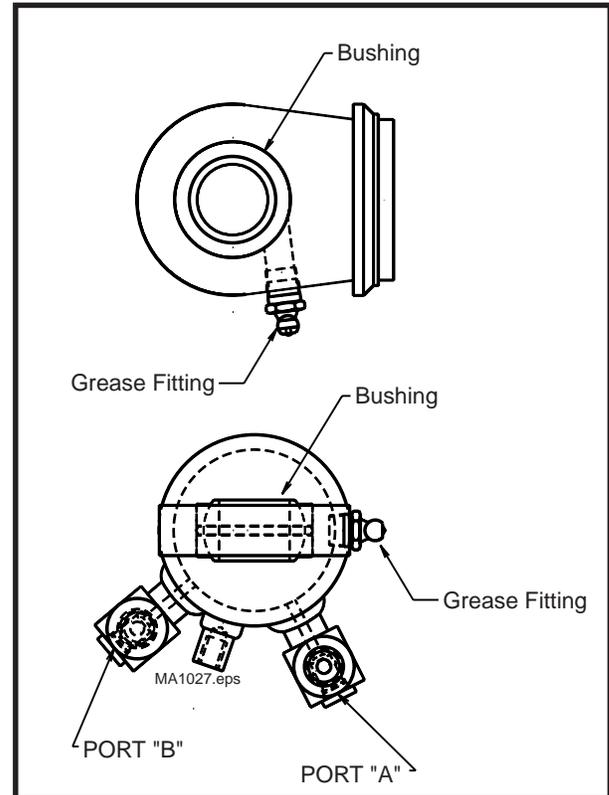

Figure 76A
3. Inspect cylinder mounting bushing for damage. If the bushings show signs of wear and/or damage, they may be pressed out and new bushing installed. A Sleeve to fit over spherical inner bushing will be needed. Do not press out by prying on the inner bushing. Refer to figure 76A.